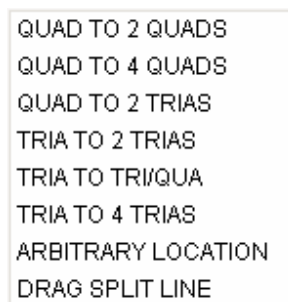

Figure 5.3.19 Shell Split Options
- Click the arrow next to SHELL SPLIT OPTION to access the drop-down menu of options as in Figure 5.3.19.